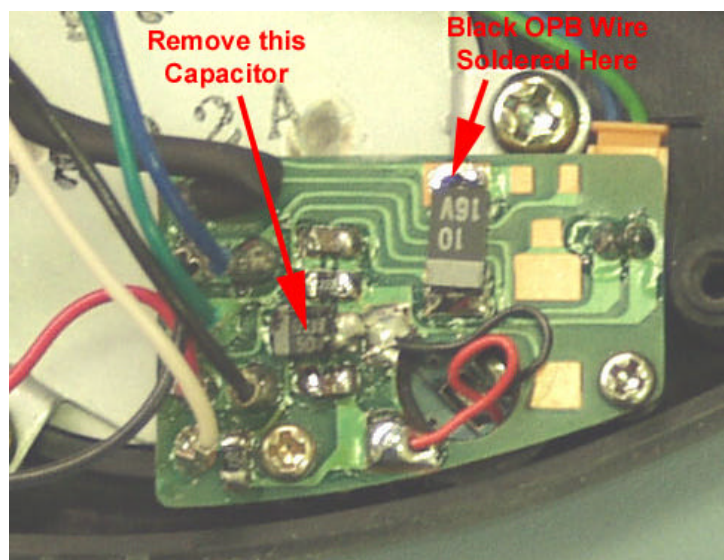

Figure 1.
1. Remove the rear cover of the HM-103 microphone and observe the internal PCB as shown in Fig. 1
- 2. Carefully remove the capacitor identified in Fig. 1.
- 4. Attach the wires from the One BIG Punch to the IM-103 PCB as shown in Figs. 1 and 3. BEFORE soldering the several OBP wires to the HM-103 PCB, be certain to place two pairs of ferrite beads on the red OBP wire and one pair of beads on the orange OBP wire.